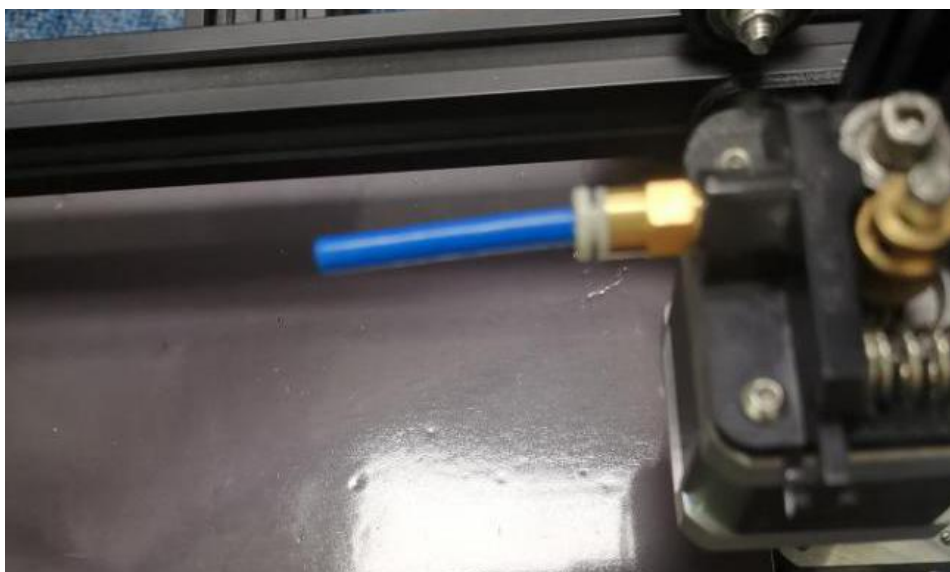

figure 18
3) Screw the smart filament module connector into the extruder.(like figure 18)